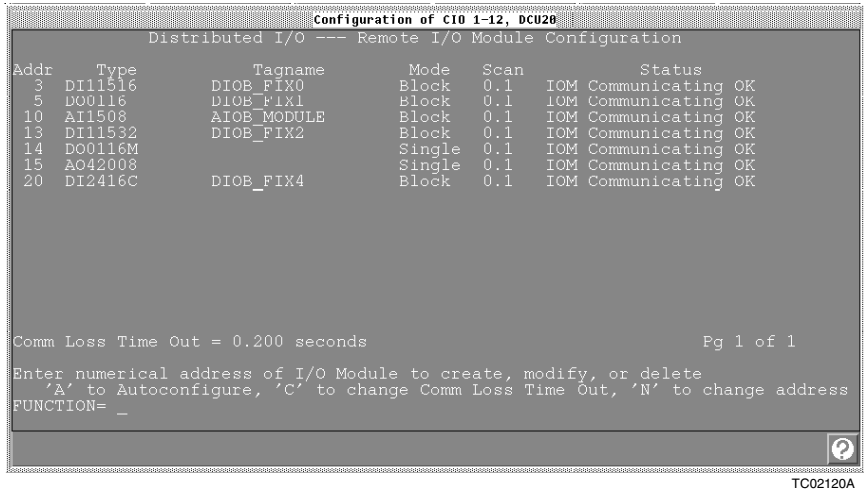

Figure 4-11. Remote I/O Module Configuration
The initial screen is remote I/O module configuration shown in Figure 4-11. From this window, the following functions can be accessed:
From the remote I/O module configuration window (Fig. 4-11), enter **A RETURN**. The TransNet bus is searched for all DIO modules installed and configured by the termination base programmer. The DIO modules found on the bus are added to the list.
At the *FUNCTION* = prompt of the remote I/O module configuration window (Fig. 4-11), enter **C RETURN**. The following message displays:
1. Access the remote I/O module configuration window (Fig. 4-11).